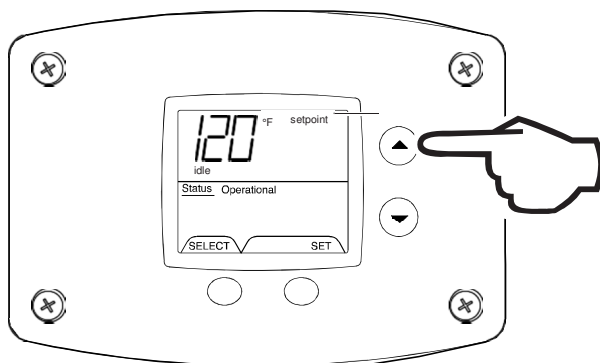

Fig. 53
3. To raise the temperature setpoint, press the 'Temperature Up' button until the desired temperature is shown on the water heater display (Fig. 53).